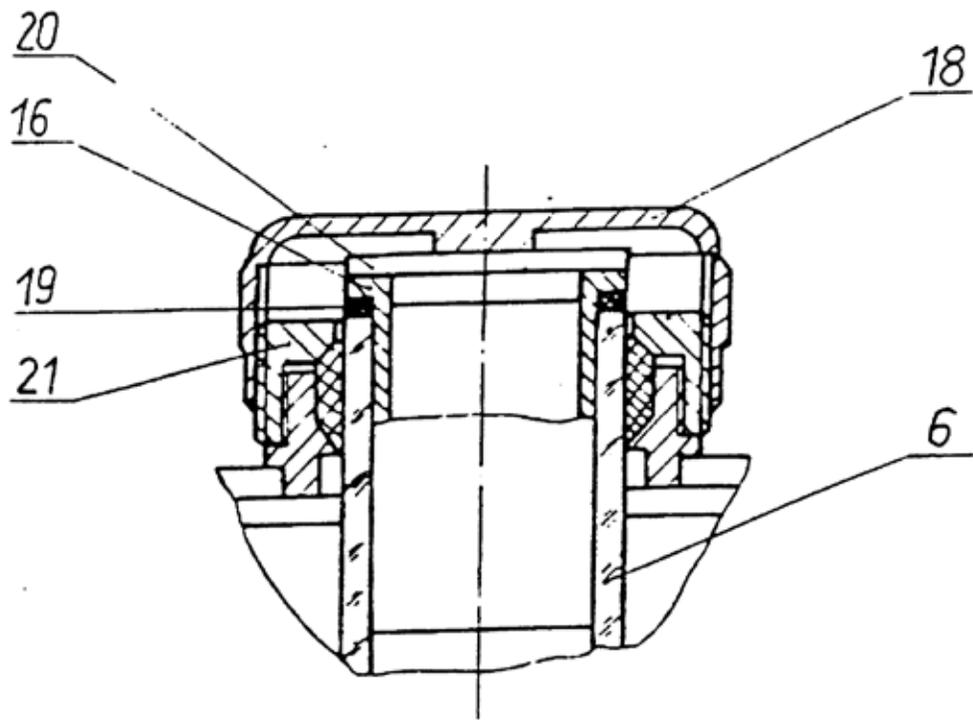

Figure 3: Sample tube screw fitting (top)
1. The Falling Ball Viscometer must be level. The level is adjusted using the two Leveling Screws (4) on the base. Adjust so that the bubble level on top of the Falling Ball Viscometer is centered within the circle. Check level periodically during use.
2. a. The working angles of the KF20 are 80°, 70°, 60° and 50° relative to horizontal. The DIN 53015 working position of 80° is the preferred position. The different working angles are secured by a locking adjustment screw (5). To select a working angle, the adjustment screw (5) should be loosened by turning it counter-clockwise approximately one rotation. After the working angle is selected, the adjustment screw should then be tightened again.
3. The two running directions of the balls can be chosen by swivelling the viscometer, which is mounted in the stand, and is secured by a locking mechanism (14).
4. The sample tube (6) is surrounded by a water jacket which is fixed between the upper plate (7) and lower plate (8). The upper locking plug (16) with lid (20), the lower locking plug (17) and accompanying seals (gaskets and washers) (19), and the caps (18) are designed to perform the following functions within the sample tube:
- c. avoid a build up of pressure (see Fig. 3 and 4)
5. Mounted on the lower plate are tubes (10) to which the circulating temperature bath tubing is attached.
6. The thermometer fastening screw (11) and sealing washer (13) with inserted thermometer is screwed into the screw neck (12) in the upper plate. The thermometer fastening screw should be tightened securely to prevent fluid leakage.